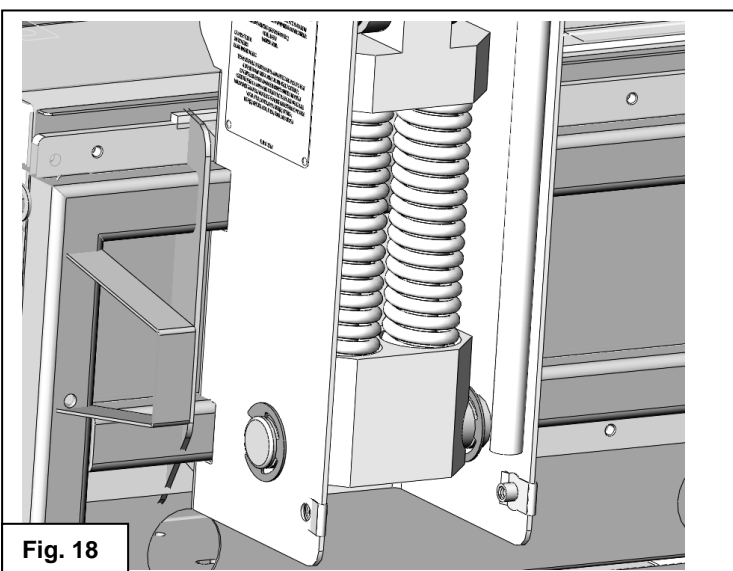

Fig. 18
20. Reverse steps 16 and 17 to reinstall the spring assembly, lower pivot rod and four retaining clips. Fig.18